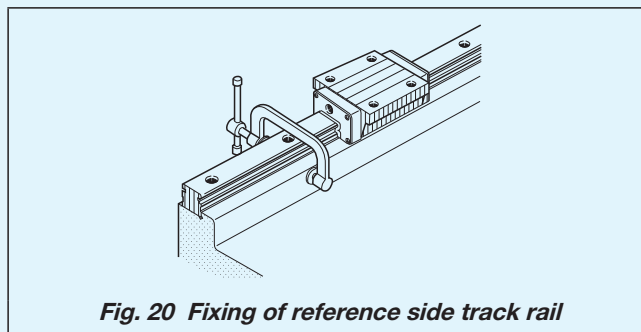

Fig. 20 Fixing of reference side track rail
- Use small type vise or the like to stick track rail reference mounting surface to the reference mounting surface of the bed and tighten the fixing bolt at the same position. Repeat this method from one end to fix the track rail in order. (See Fig. 20)